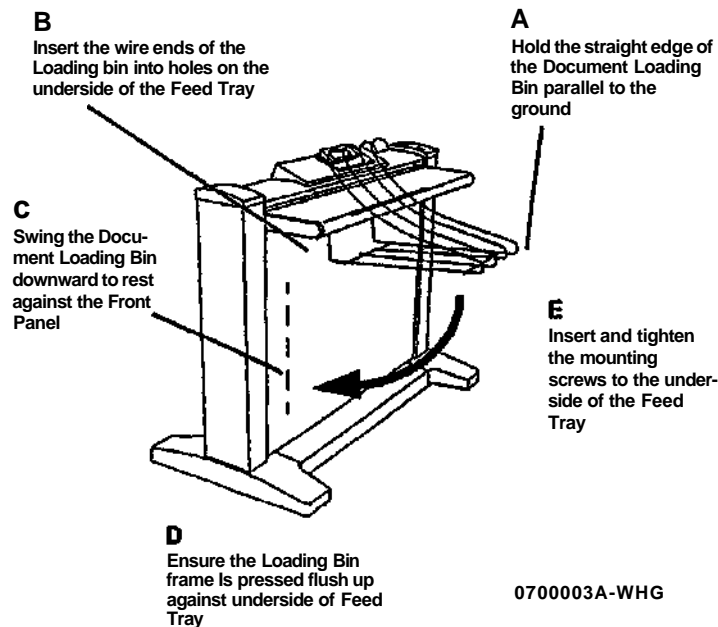

Figure 2 Replacing the Document Loading Bins
1. (Figure 2): Replace the Document Loading Bins.